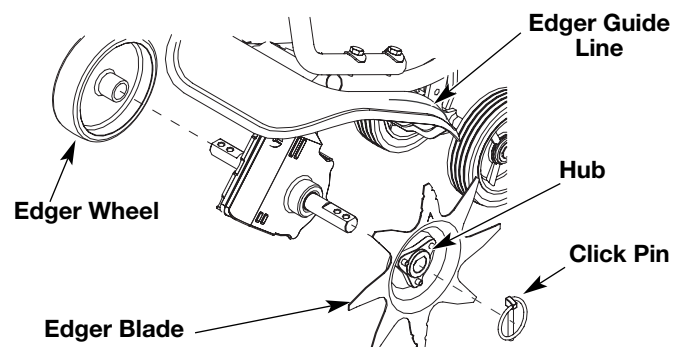

Fig. 4
3. Slide the edger wheel, with the hub facing inward, onto the right side of the tine shaft and secure with the click pin in the inside hole (Fig. 4).
4. Slide the edger blade with the hub facing out onto the left side of tine shaft and secure with the click pin in the inside hole (Fig. 4).